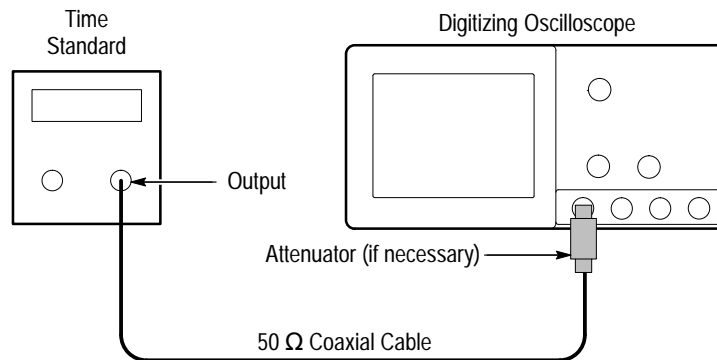

Figure 1–10: Initial Test Hookup
- a. *Hook up the test-signal source:* Connect, through a 50  $\Omega$  precision coaxial cable, the output of a time standard to **CH 1** (see Figure 1–10). Set the output of the standard to 100 MHz (or a period of 10 ns).